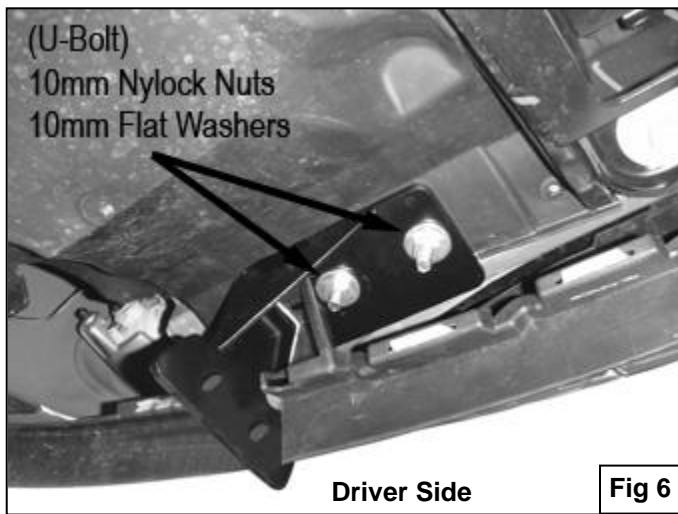

Fig 6
8. Position driver side Mounting Bracket over already inserted "U"-Bolt and installed splash shield. **NOTE:** Once the Mounting bracket is fully tightened, it will hold the splash shield in place. Trim and fit the splash shield and air valance if needed as you installed the Mounting Bracket. You might need to slightly pull on the air valance towards the front of the vehicle in order to slide the Mounting Bracket between the splash shield and air valance (**Figure 6**).
9. Secure the Mounting Bracket to "U" Bolt using (2) 10mm Nylock Nuts and (2) 10mm Flat Washers (**Figure 6**). Do not tighten at this time.